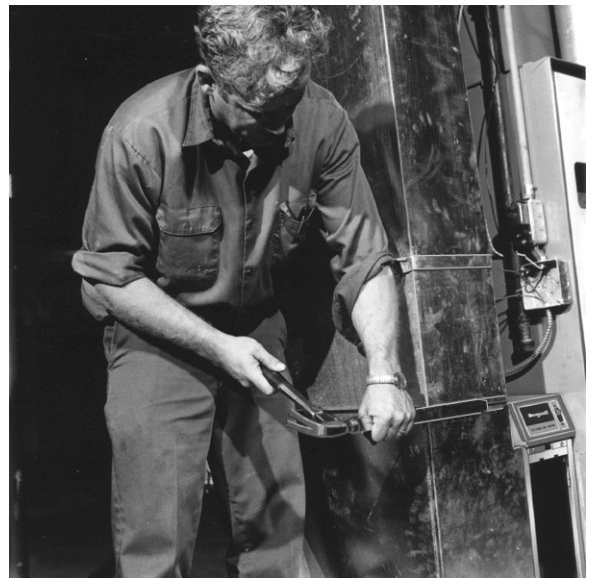
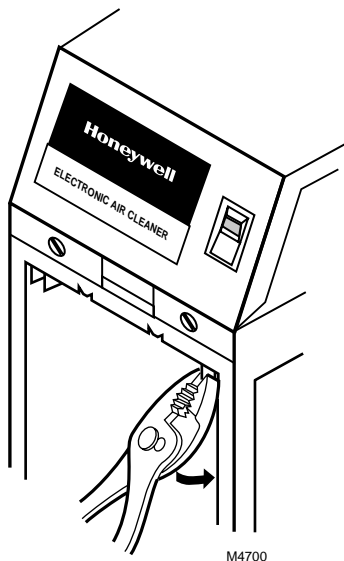

Fig. 25. Complete the duct installation.
Fig. 26. Crimp End Of Unused Prefilter Guide.
2. If the system blower is driven by a 3-phase, variable speed or a 2-speed motor, the air cleaner *must* be isolated from the blower motor. Use a sail switch mounted in the return air duct (see Fig. 25), a dpdt fan relay (see Fig. 26), or furnace manufacturer supplied terminals. Connecting the air cleaner in parallel with one speed of a multispeed motor can create an *auto-transformer effect*. If connected with the high speed, voltage supplied to the air cleaner at low speed is too low, and the air cleaner may not operate at all. If connected with the low speed, voltage to the air cleaner at high speed is too high and the air cleaner will burn out.
- ❑ When ductwork is properly aligned, connect vertical duct to horizontal trunk. See Fig. 25.
- ❑ Crimp the end of the downstream (closest to furnace) prefilter guide to prevent incorrect prefilter installation following cleaning. See Fig. 26.